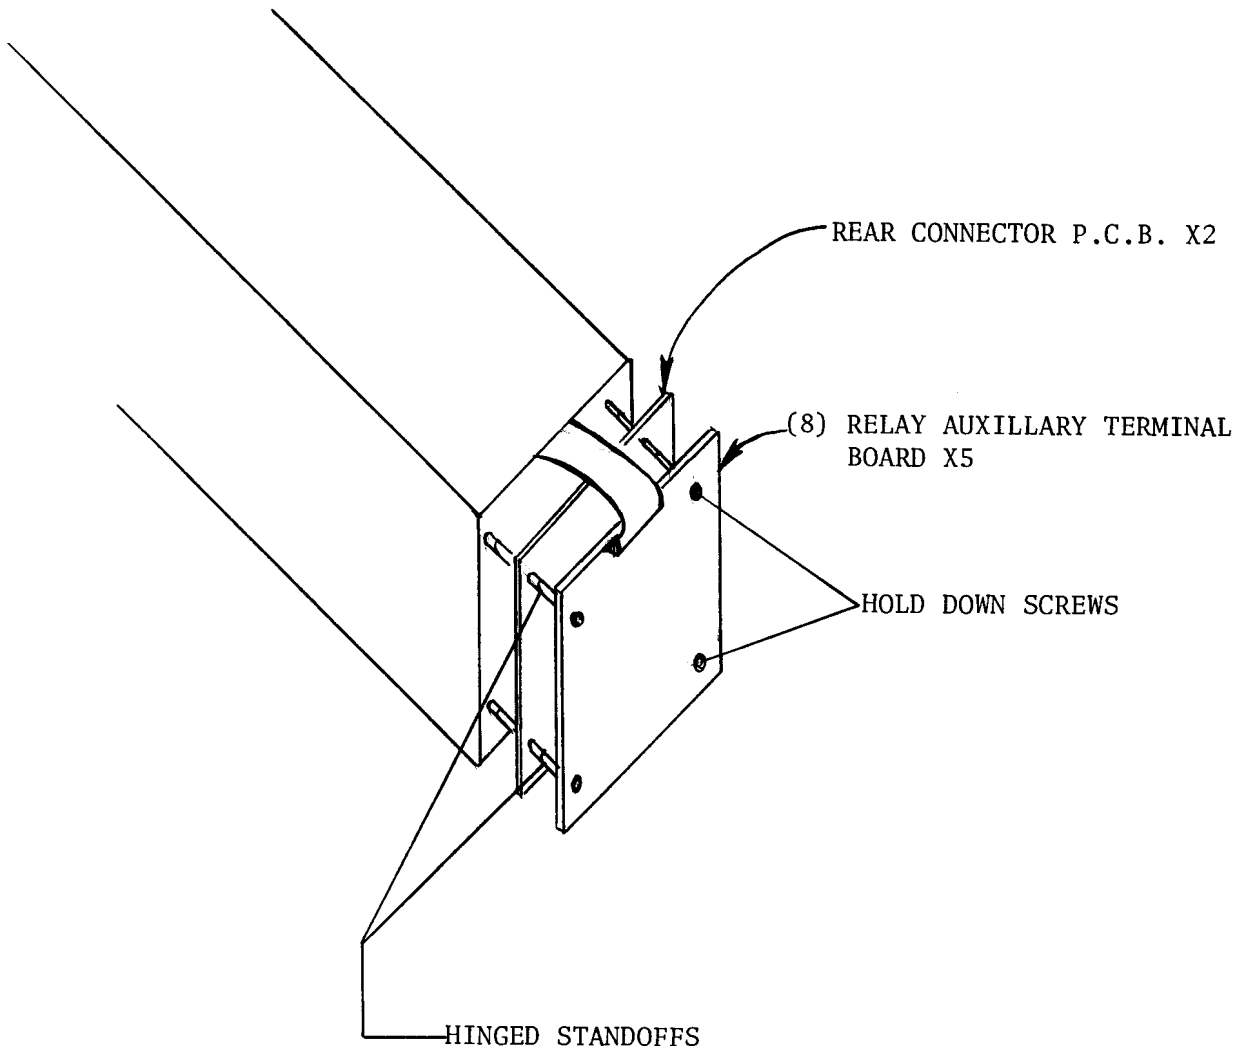

Fig. 1
The (8) Relay Auxillary Terminal Board is mounted directly over the rear connectoer P.C.B., (X2), using (2) hinged and (2) straight standoffs. Access to X2 is attained by removing the two (2) hold down screws on the right hand side (as viewed from the rear) of X5, disconnecting the ribbon cable connector J1 and swinging X5 to the left. See Fig. 1